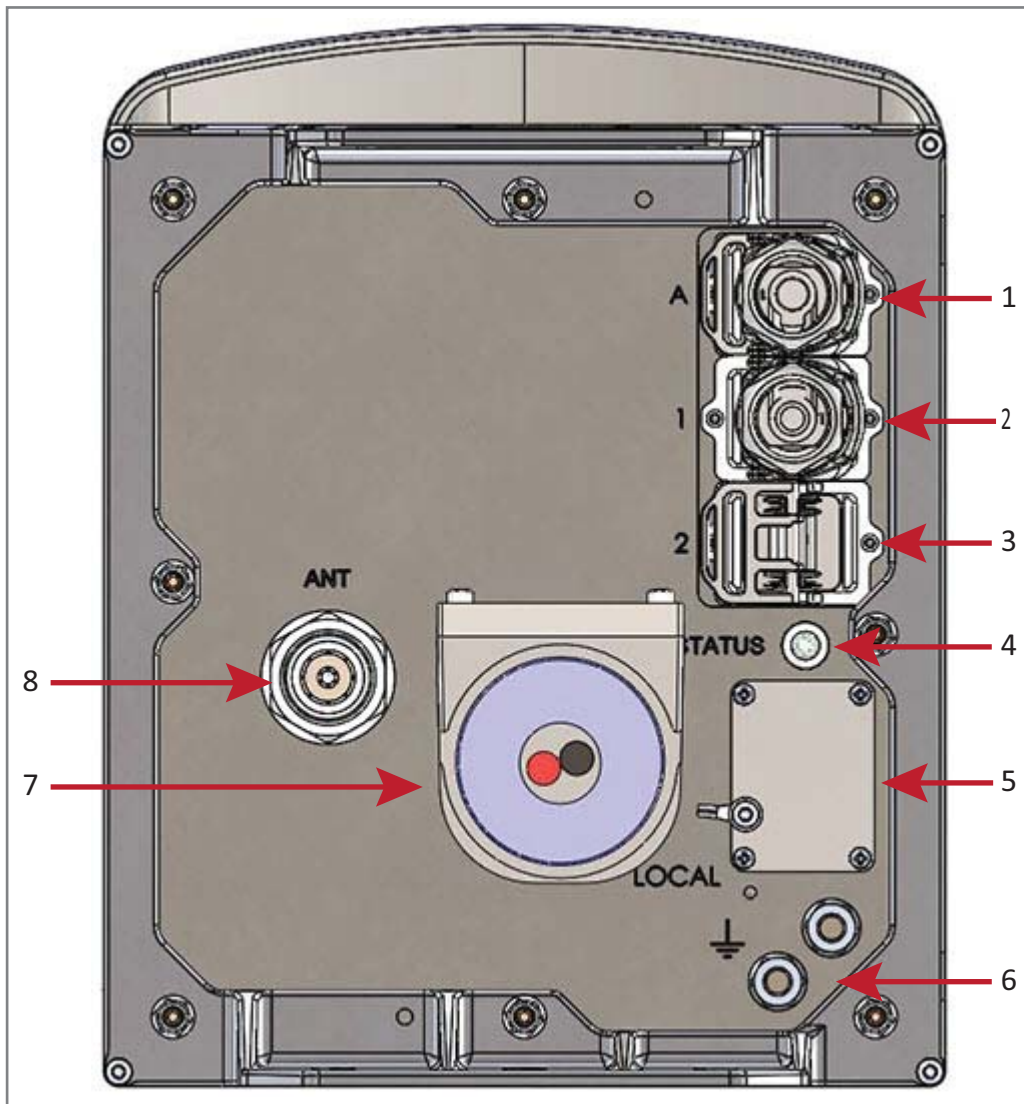

Figure 3. Location of Connectors and Status LED on DC Version with One Antenna Connector
- Table 2 on page 7 maps the callouts in Figure 2 and Figure 3 on page 8 and describes the connectors and STATUS LED.
- Figure 3 on page 8 shows the connectors on a DC version of the CAP H that has one antenna connector.
The “REF #” column in Table 2 refers to the callouts in Figure 2 on page 6 and Figure 3 on page 8.